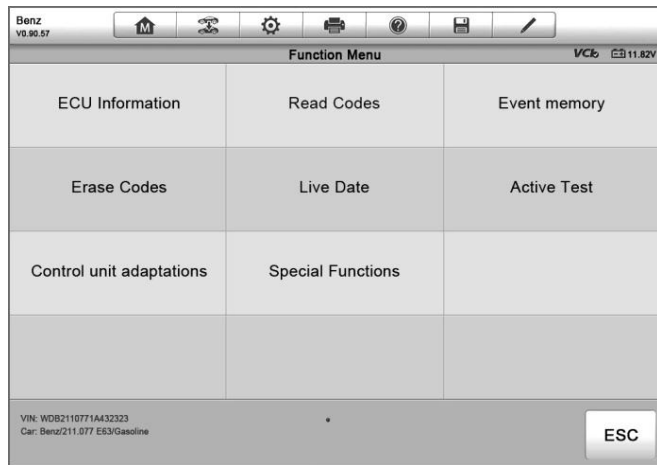

Figure 4-8 *Sample Function Menu Screen*
- Tab the  button to the right of the system item, on which you want to perform further diagnosis and other test activities. A Function Menu screen (*Figure 4-8*) shall then display.